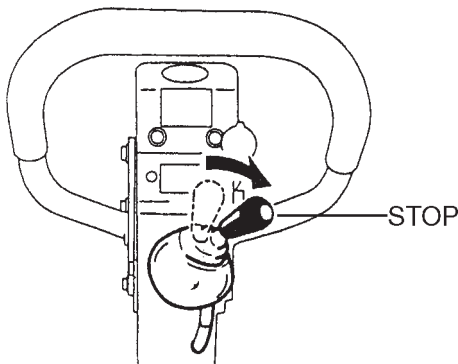
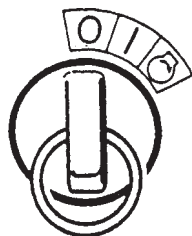

Figure 16. Throttle Lever (Stop)
Figure 17. Starter Switch (STOP)
- Turn the throttle lever to the **STOP** position (Figure 16) to stop the engine. If using an electric start unit, return the key switch to the **STOP** position (Figure 17) as soon as the engine stops.